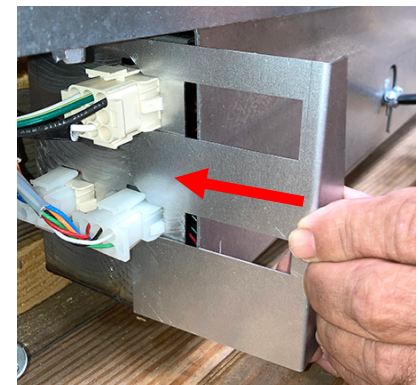

Figure 6
7. Slide the left shield(s) to the left side of the transformer box, as viewed from the rear of the fryer. The shield **MUST** slide between the electrical connectors and the box to seal around connectors (see Figure 6). **DO NOT** disconnect the connectors to attach the shield. Connectors may need to be slightly maneuvered to slide the metal behind the connectors.